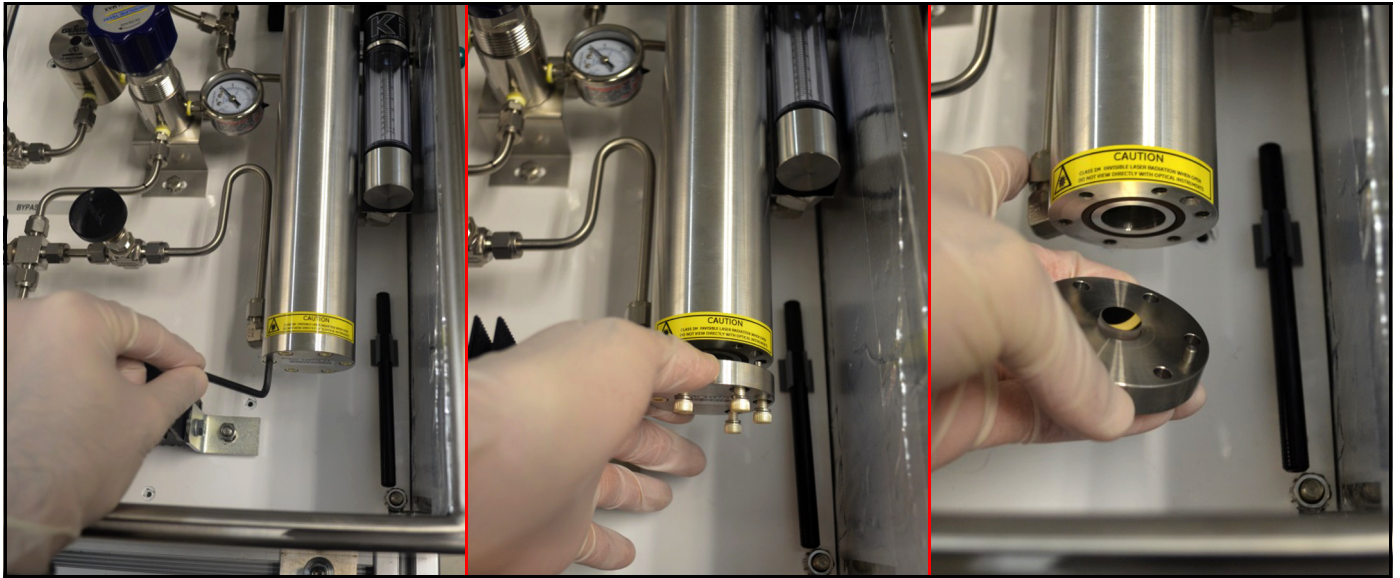
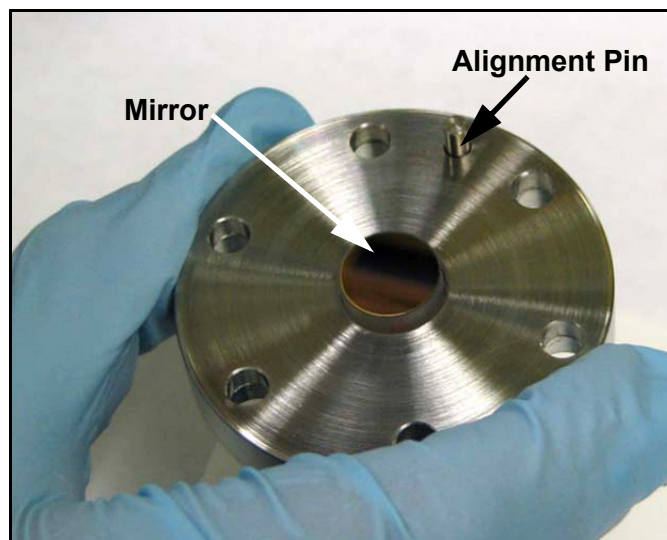

Figure 79: Removing Mirror End Cap Assembly from the Absorption Cell
Figure 80: Handling the Mirror Assembly
1. Remove the 6 hex bolts securing the mirror (see Figure 79 below) using a 5/32 inch Allen wrench. Hold the stainless steel base of the mirror with one hand while removing the last retaining bolts. The mirror is removed by pulling it straight down. There is one alignment pin (see Figure 80 below) to facilitate proper removal.